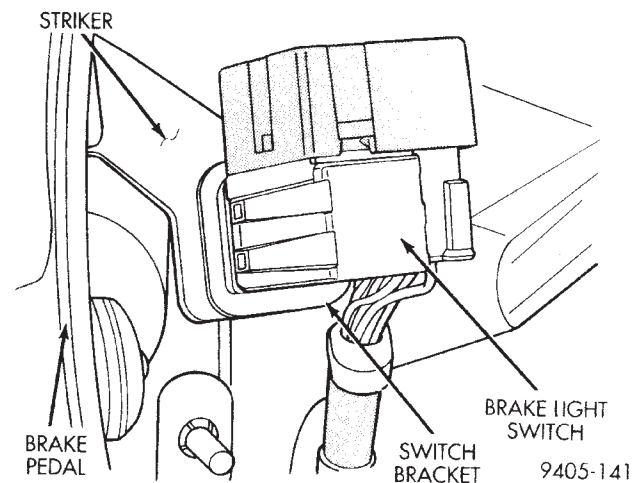

Fig. 168 Stop Light Switch Location In Vehicle
CAUTION: Do not use excessive force when pulling back on brake pedal to adjust the stop lamp switch. If too much force is used, damage to the vacuum booster, stop lamp switch or striker (Fig. 168) can result.
(5) Connect the wiring harness connector to the stop lamp switch.
(6) Gently pull back on brake pedal until the pedal stops moving. This will cause the switch plunger (Fig. 168) to ratchet backward to the correct position.